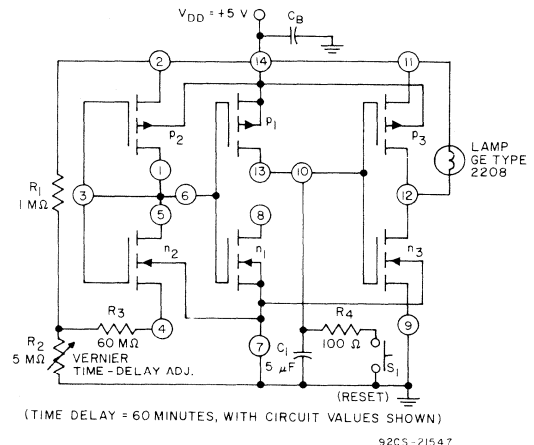

Fig. 26—Analog timer using CA3600E.
The CA3600E is useful in the design of analog timer circuits. A typical circuit is shown in Fig. 26. For purposes of explanation, let it be assumed that capacitor C_1 initially is in a completely discharged condition; terminal 10, therefore, is initially at ground potential and transistor N_3 is non-conductive. The circuitry at the left of terminal 10 provides a source of constant-current flow through P_1 to charge capacitor C_1 increasingly positive with respect to ground. After the passage of time (T), capacitor C_1 is charged sufficiently in the positive direction so that transistor N_3 is driven into conduction by its gate and the lamp is lighted to signify the end of the time-delay period. The circuit is reset by momentarily closing switch S_1 to discharge capacitor C_1 through R_4 . Resistor-divider network R_1, R_2 establishes the supply voltage to a constant-current network comprised of resistor R_3 and the series-connected COS/MOS pair N_2, P_2 , biased for linear operation by resistor R_5 as previously described. This combination is connected to the gate terminal (No. 6) of
A variant of this complementary current mirror is used in the analog timer circuit shown in Fig. 26. Transistors P_2 and N_2 are series-connected together with a 60-megohm resistor to establish their drain current at 5 nA. The potential developed across terminals 1 and 2 also appears as the gate-source voltage for transistor P_1 , thereby establishing a mirror-current source of 5 nA at terminal 13 to charge capacitor C_1 linearly. In this circuit, the "mirrored" current-sink available at terminal 8 (transistor N_1) is unused. This type of current-mirror configuration is exceptionally stable with temperature variations.